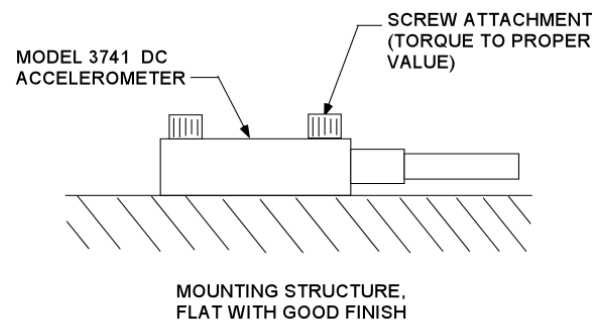

Figure 3. Mounting Surface Preparation
STEP 1: First, prepare a smooth, flat mounting surface, then drill and tap mounting holes for mounting as shown in Figure 3 and in accordance with the enclosed **Installation Drawing**.